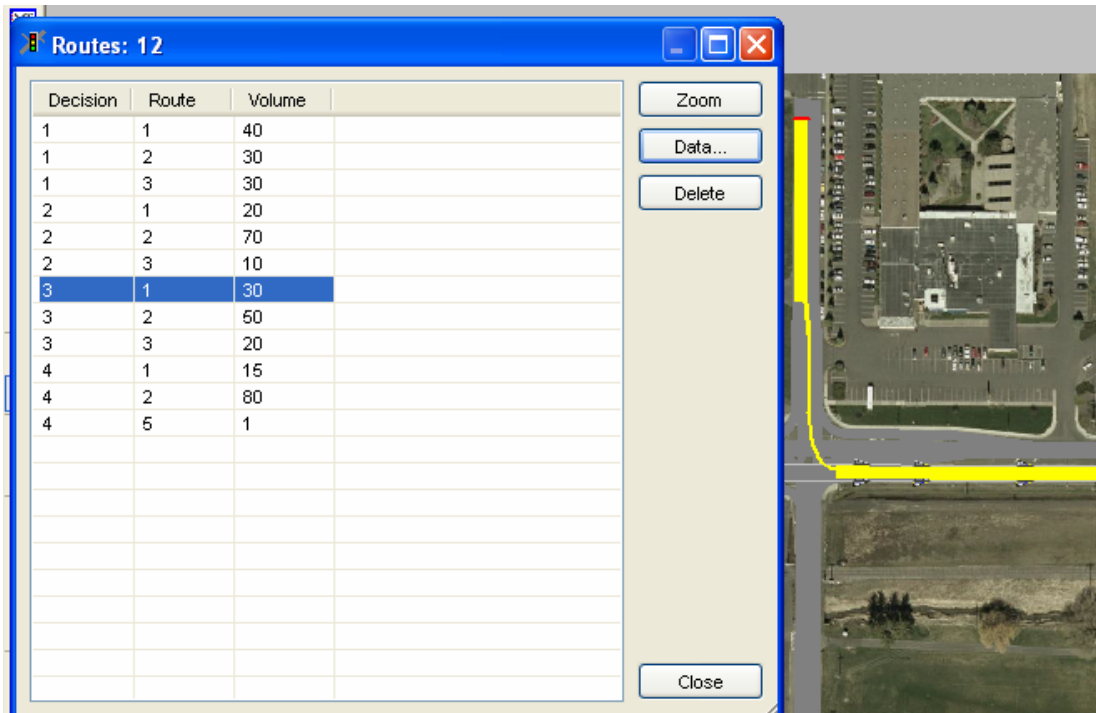

Figure 11. The "Routes" window in VISSIM.
- Right click any point outside the VISSIM intersection, the “Routes” window appears (see Figure 11). If you highlight any row in the list, the corresponding route in the VISSIM intersection will also highlight in yellow.